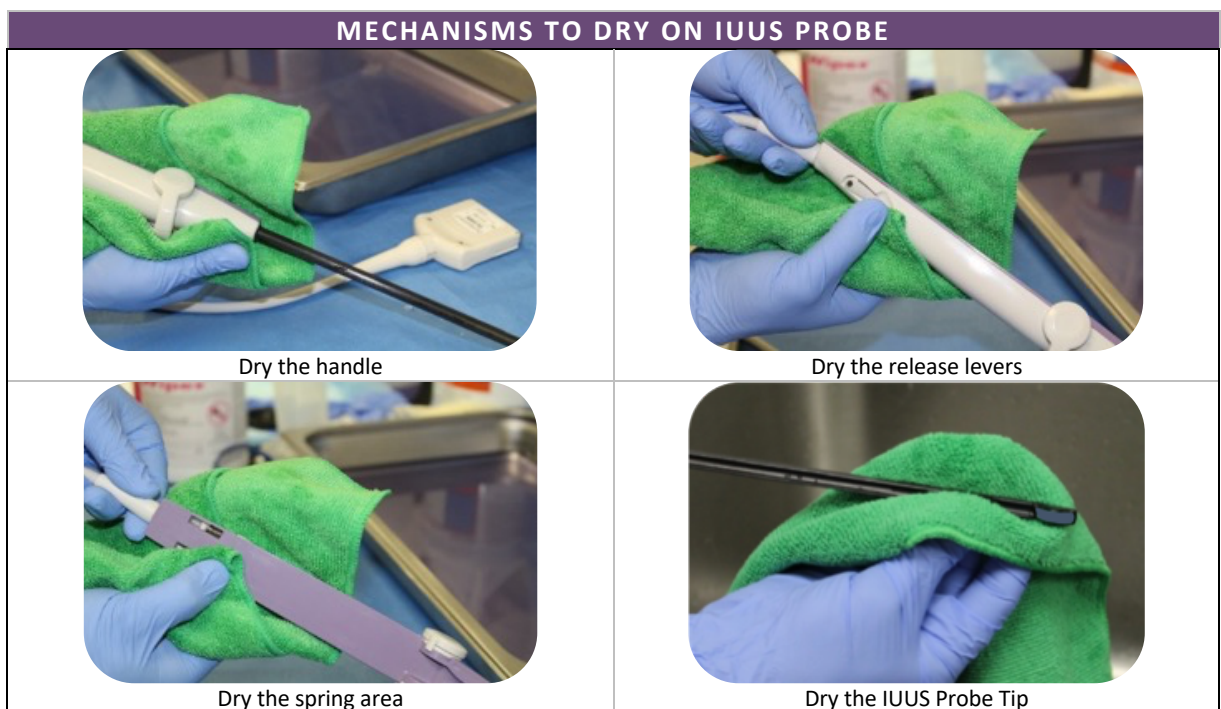

Figure 4-7 Dry the IUUS Probe with a lint-free cloth.
1. Completely dry the IUUS Probe, including the mechanisms on the handle, with a clean, soft, lint-free cloth, air dry, or use a drying cabinet, see Figure 4-7.